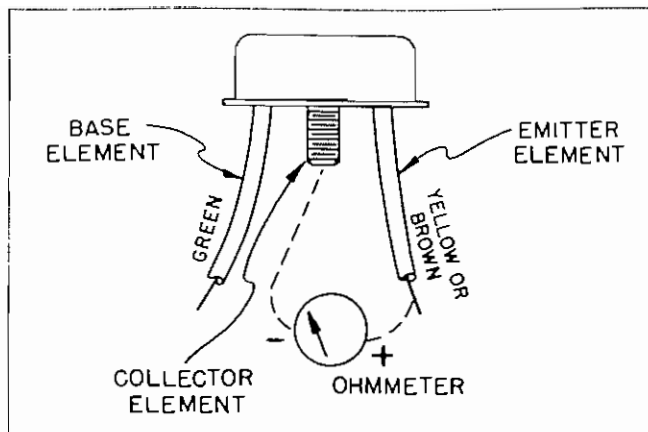

Figure 25
1. Place an ohmmeter on RXI scale and "zero" the meter. Connect meter between the emitter lead and the collector post, see Figure 25, leaving the base open. The positive lead of the ohmmeter should be connected to the emitter, and the negative lead to the collector. To determine which lead is positive, check